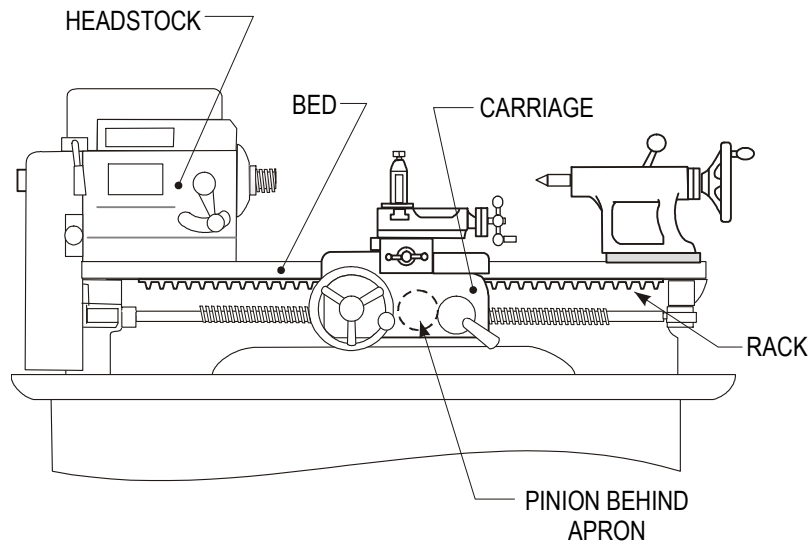

Figure 3
3. If the rack is fixed and the pinion rotates, then the pinion's centre moves in a straight line, taking the pinion with it like the movement of the carriage along the bed of a centre lathe (figure 3).